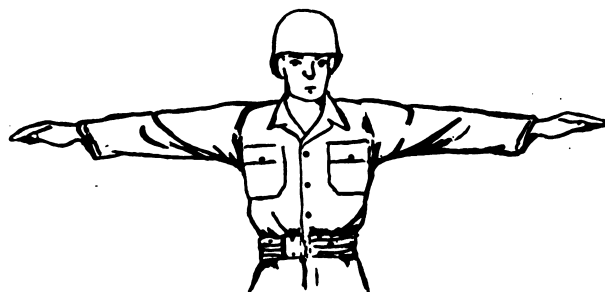

Figure 3. Hover.
c. To indicate hover, extend arms sideways, horizontally, with palms downward (fig. 3).